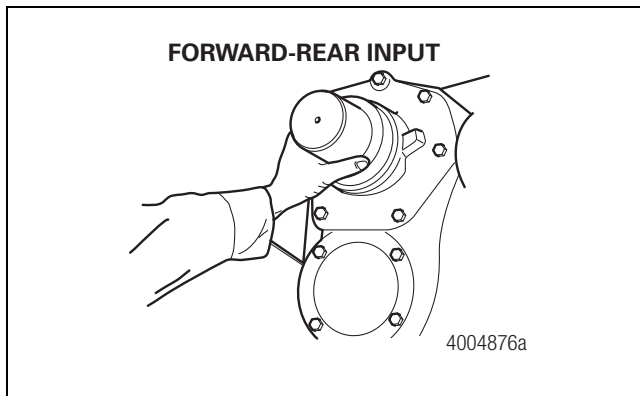

Figure 9
6. Install the forward-rear axle input seal. Hold the sleeve and seal only on the outer diameter. Position the seal into the seal driver and align it with the forward-rear axle input bearing cage. Do not touch the lips in the inner diameter of the seal. Use a dead-blow hammer and the appropriate driver to install the seal into the bearing cage. Figure 9.